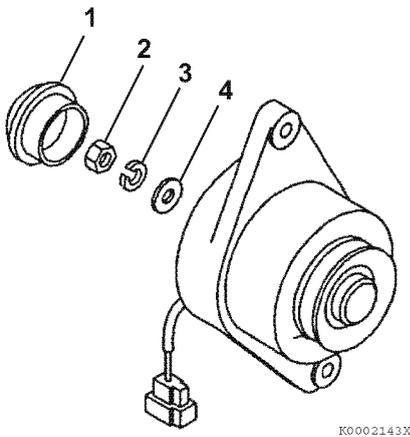
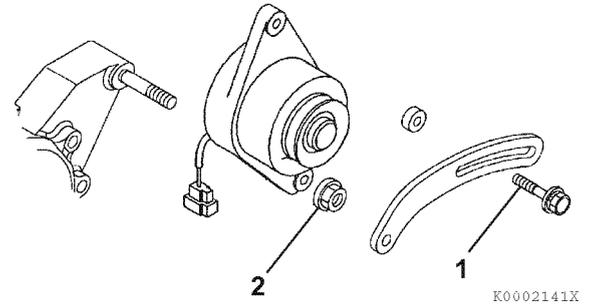

Figure 12-31
Figure 12-32
5. Reinstall the flat washer (4, **Figure 12-31**), lock washer (3, **Figure 12-31**), and nut (2, **Figure 12-31**). Tighten the nut to the specified torque.
6. Reinstall the rear cap (1, **Figure 12-31**).
1. Position the dynamo on the gear case. Loosely reinstall the nut (2, **Figure 12-32**) on the gear case stud and the V-belt adjuster bolt (1, **Figure 12-31**).